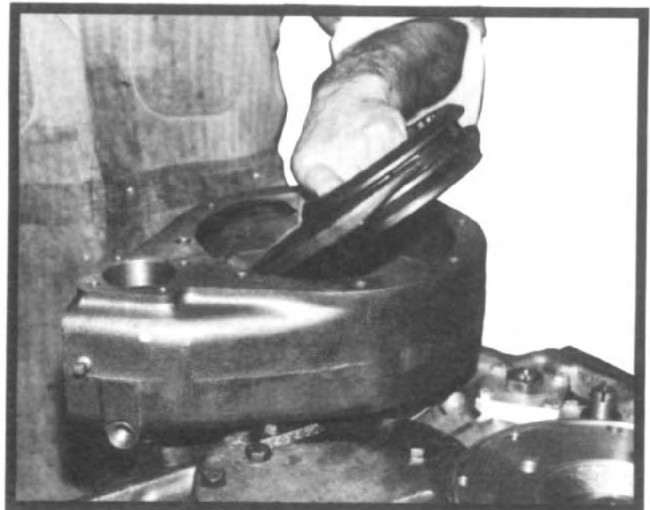

Fig. 26
2. Slide clutch collar into the shift fork ears and assemble the two parts together into the declutch housing (see fig. 26). The short hub on the collar **must face the housing** and the flat side of the fork **must face away from the housing**. The shift fork is not symmetrical and it is possible to install it backward. Even if the shaft and adapter will assemble, the fork will interfere with the inside of the declutch housing and cause incomplete or erratic shifting.